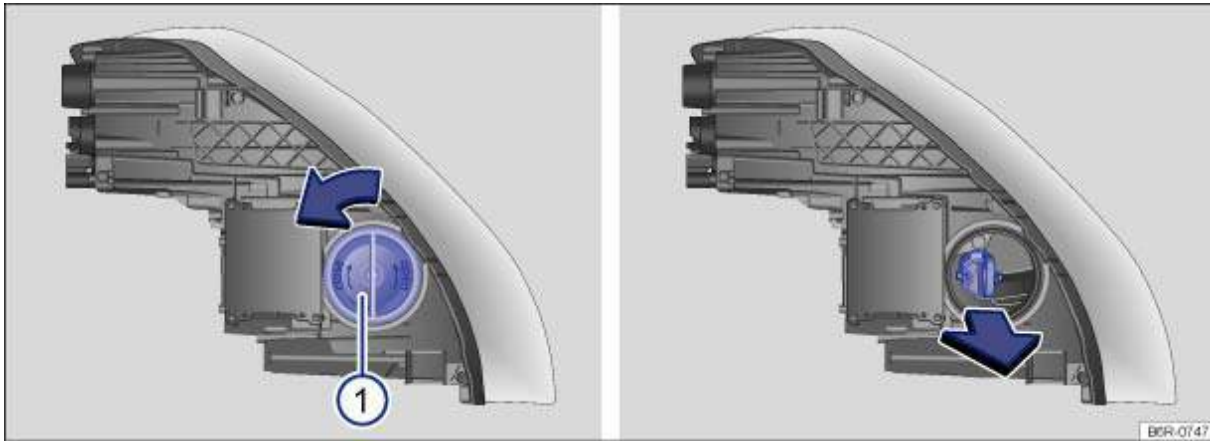

Fig. 214 Underside of the right LED headlight: turn signal cover.
→ Fig. 214	Front turn signal ①